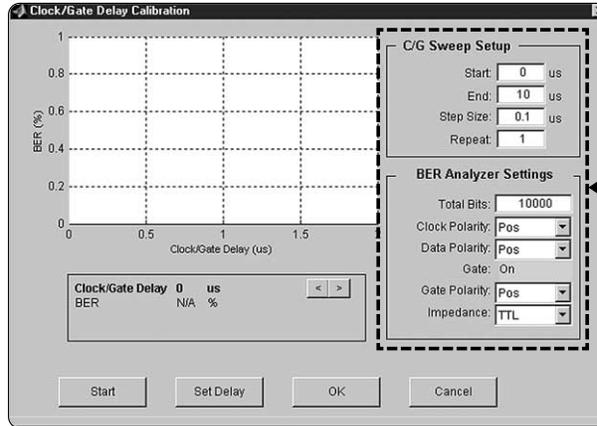

Figure 45. Clock/ Gate Delay calibration utility setup.
5. Configure the automated clock/gate delay calibration utility, Figure 45. In this example, the clock/gate sweep end field is set to 10 us. Default values are used for the remaining configuration fields.